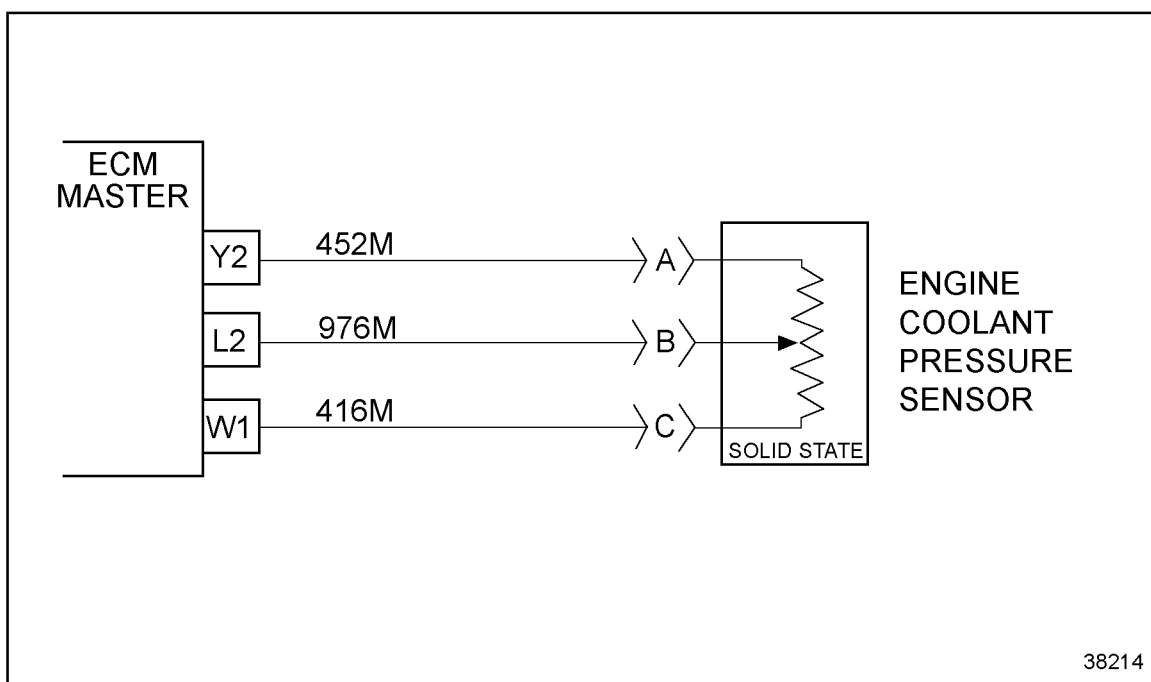
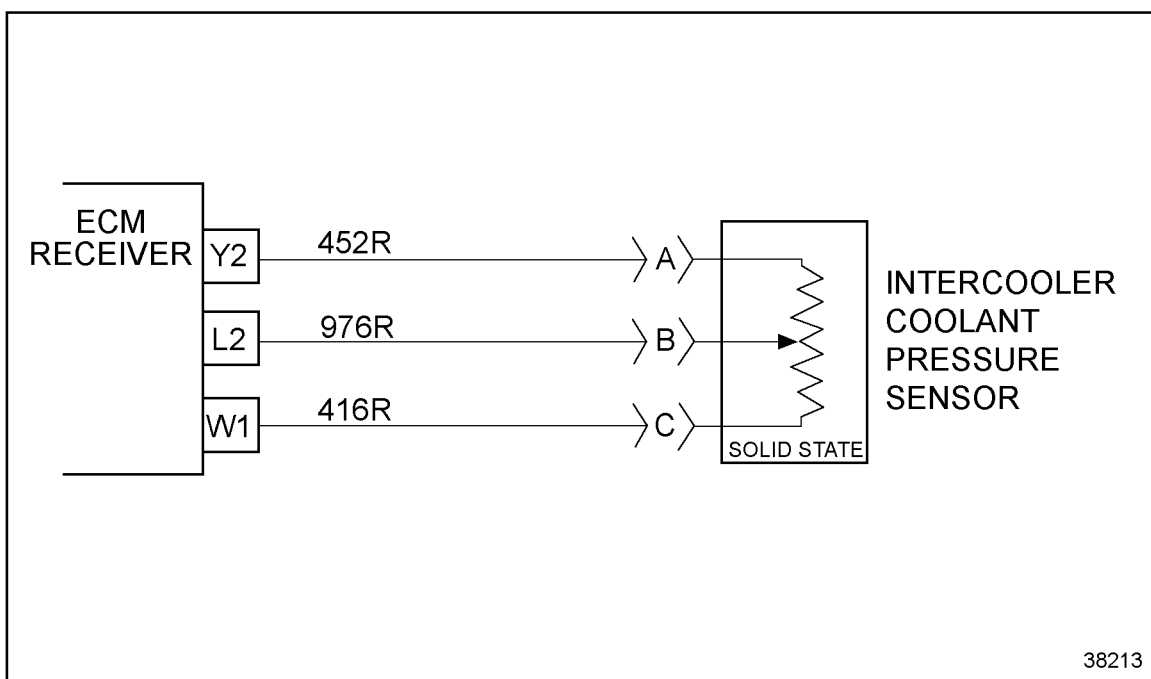

Figure 67-1 Master Circuit
Figure 67-2 Receiver Circuit
3. Install a jumper wire between cavity B (976) and C (416). For Receiver circuit, see Figure 67-1. For Master circuit, see Figure 67-2.